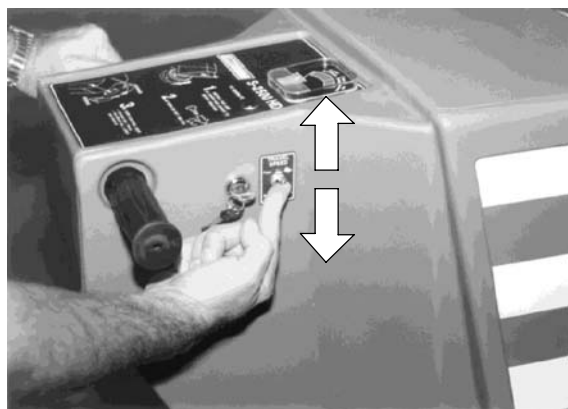

FIG. 7
4. Select a speed with the travel speed selection switch (Figure 7):